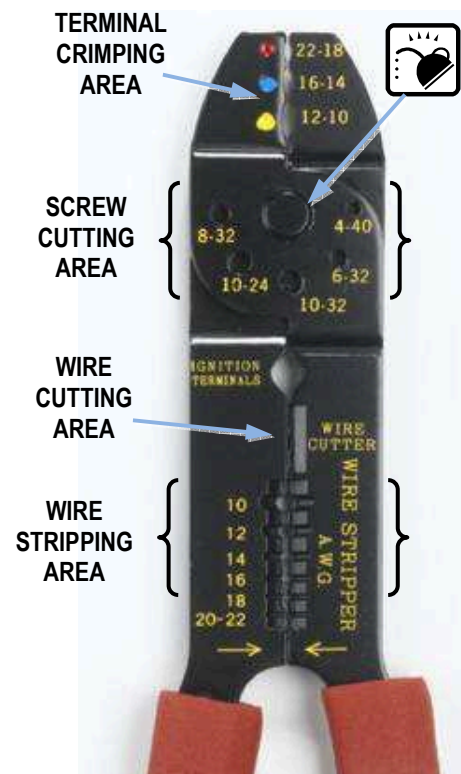

Figure 1
3. Make certain all pins; pivot points and bearing surfaces are protected with a thin coat of high quality machine oil. Do not oil excessively. Light oil (such as SAE30W oil) applied at the oil points, shown in Figure 1, every 5,000 crimps or 3 months, is recommended.